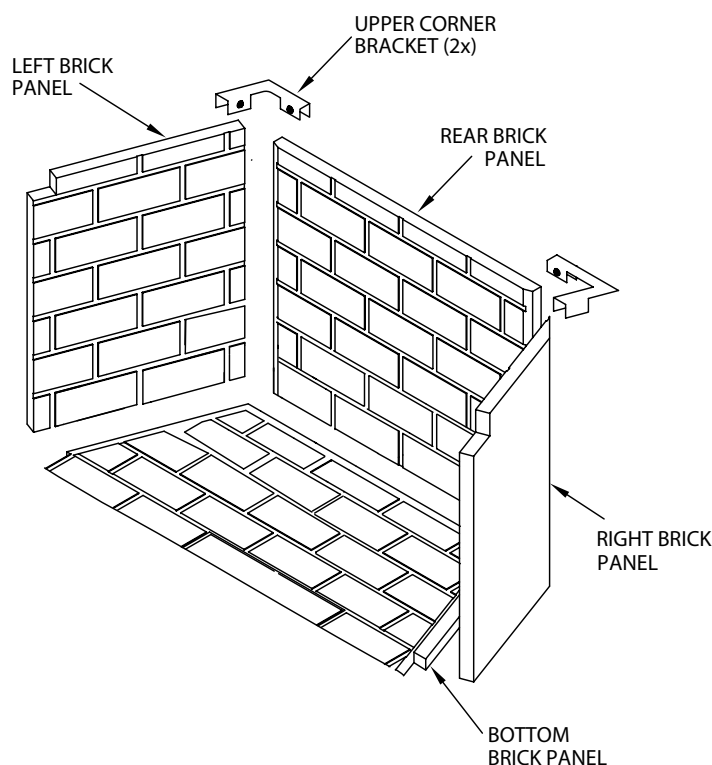

Figure 13 - Installing Refractory Panels
5. Install the upper corner brackets and tighten set screws (*Figure 13*).